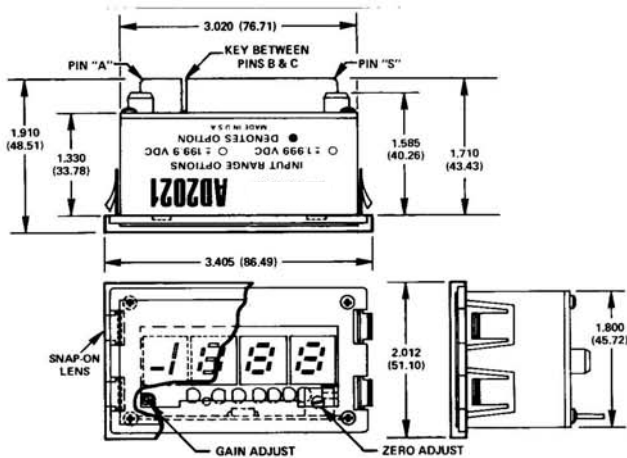

Figure 3. AD2021 Mechanical Outline
- **CALIBRATION PROCEDURES.** A precision voltage reference is needed for the calibration of the AD2021. The location of the calibration potentiometers is shown in Figure 3. Always adjust the zero offset before the gain if zero adjustment is necessary.